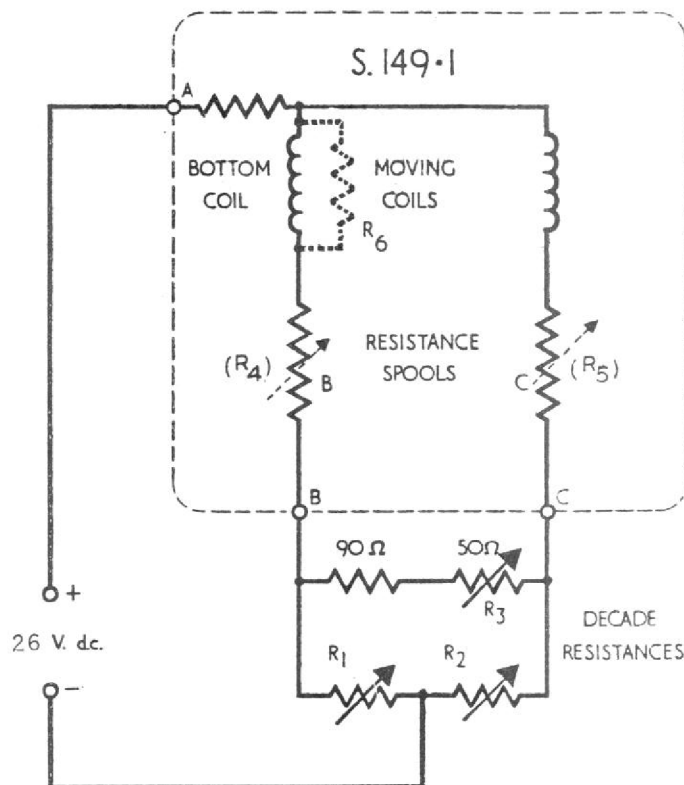

Fig. 4. Test circuit diagram. Position indicator.
(1) Preparation
- (b) Connect the pre-determined spools in circuit, insert two decade resistance boxes, R4 and R5, in place of the unadjusted spools, and decade resistance boxes R1, R2 and R3 in place of the position transmitter (see Fig. 4).
(2) Procedure